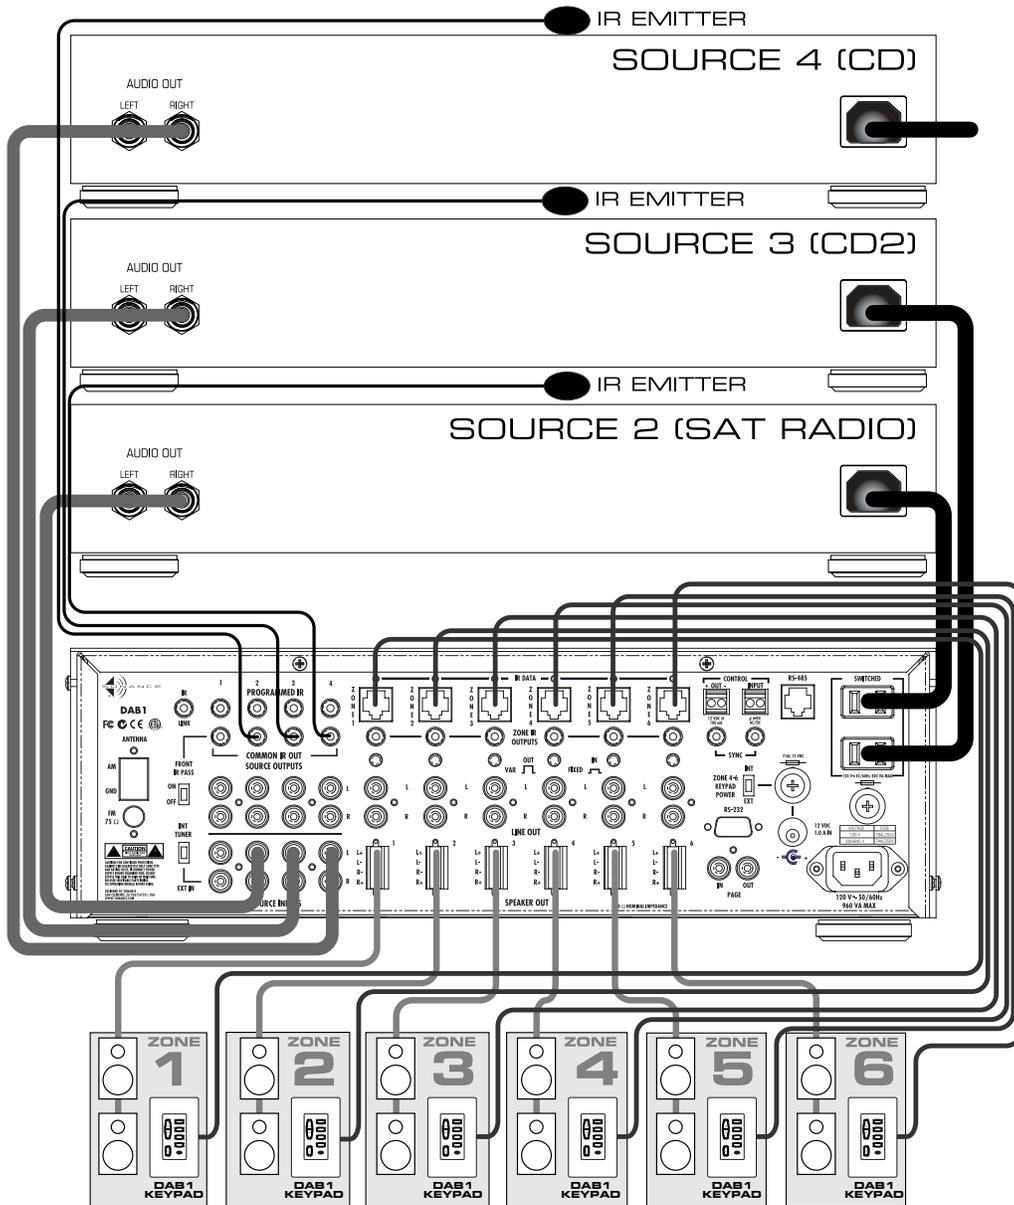
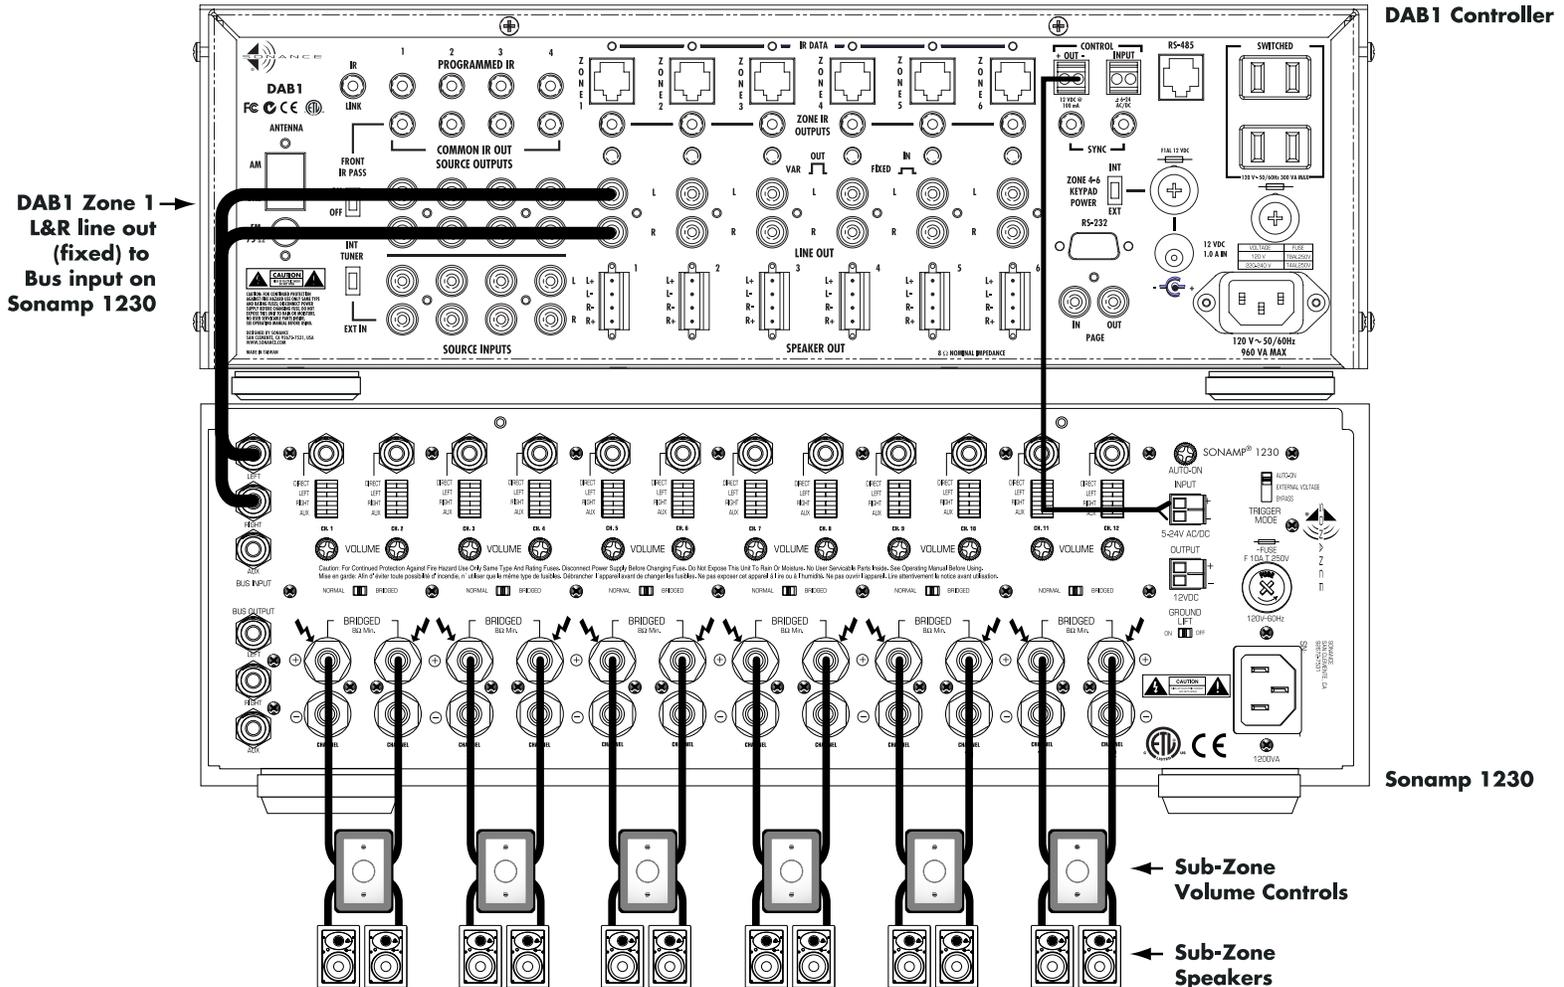

Figure 7. Typical DAB1 System
Figure 12. Sub-Zone Expansion
With the system set up and connected as shown in Figure 7, the DAB1 and its sources can be tested for proper operation. (It is recommended to always test components prior to installation.) A certain amount of configuration and programming will be required for every system, but setting the system up and testing functionality will also provide familiarity with the DAB1 and the source components prior to programming, and will save time in system design, programming and installation.
1. Connect all components as shown in Figure 7 including:
2 Pair Stranded – There are two wiring schemes that should be considered for speaker wire. In most applications, wire should be pulled in home runs directly from the speaker locations to the DAB1. This method assumes Volume in each Zone will be controlled by the DAB1 Keypad or an IR remote. (See Figure 7). The second scheme would be to run the speaker wire through a low voltage J-box when in-wall Volume Controls are to be used. This method is appropriate when an external multi-channel amplifier will be used to increase the number of rooms on a Zone, and Volume will be controlled in each room with an in-wall Volume Control. (See Figure 12). 18 AWG up to 50’; 14 AWG up to 100’; 14 AWG up to 250’.
When Using a Multi-channel Amplifier for Sub-Zone Expansion (Figure 12)